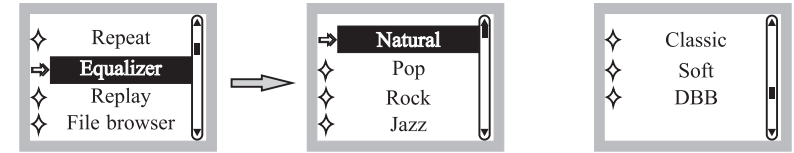

Fig. 11
- (G) Equalizer Mode, Fig. 11:
- (1) Turn right or left Parameter knob to select parameters.
- (2) Press Parameter knob to confirm.
- (3) Natural: Normal → Pop: Popular → Rock: Rock → Jazz: Jazz → Classic: Classical → Soft: Soft → DBB: Deep Bass.